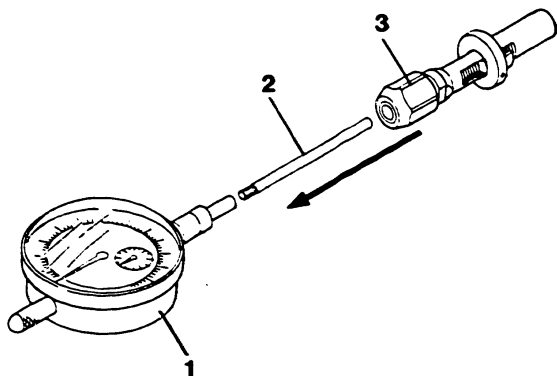

Fig. 24 Inserting the pin
1. Insert a 60.5 mm pin (Part No. KDEP 2651/2) into the dial gauge (Part No. 1 687 233 010). (Fig. 24).